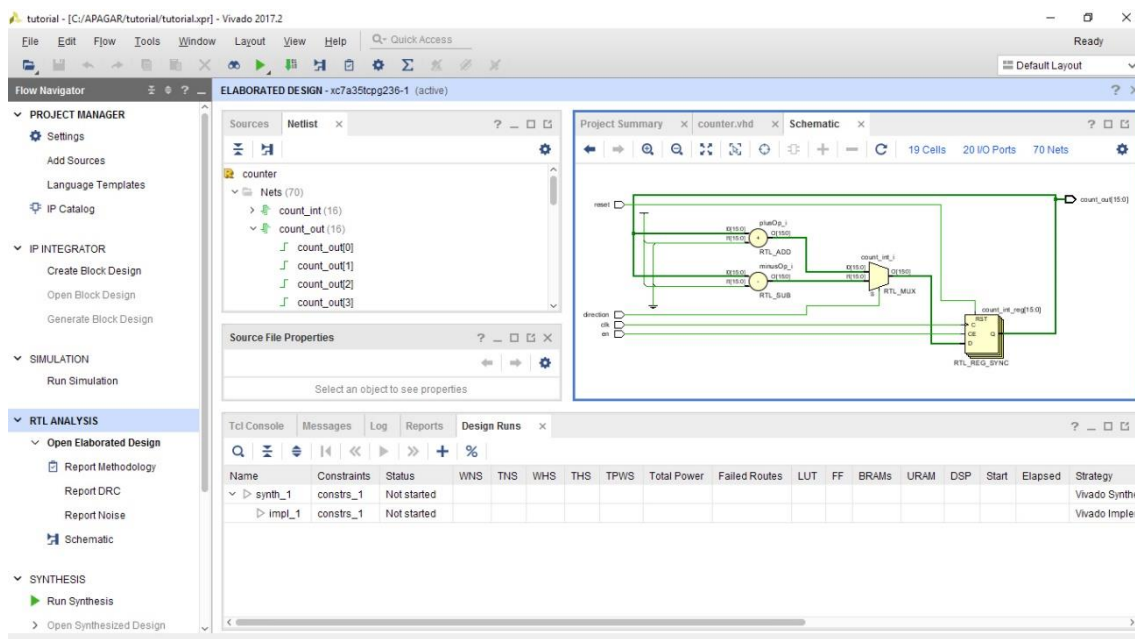

Figure 14
10. Figure 14 shows the **Schematic** representation of our description at the RTL level; this representation should open automatically in the **Elaborated Design** window, now the main window of our project; if it does not open, go to the **Flow Navigator** window and in the section **RTL Analysis** → **Elaborated Design**, click **Schematic**